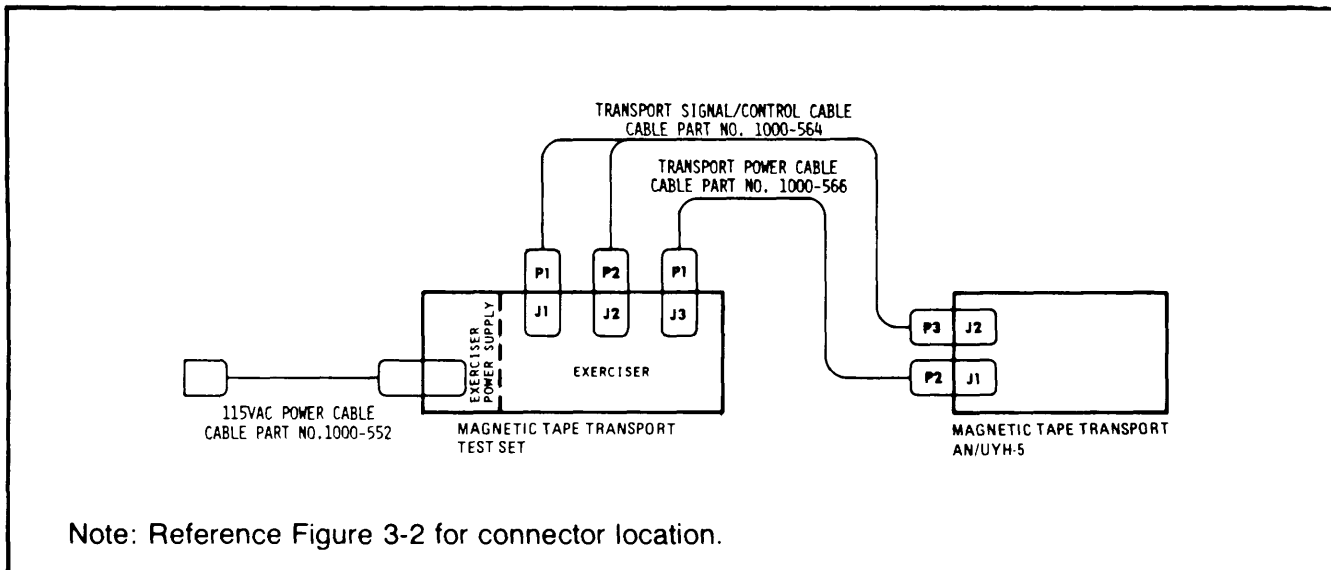
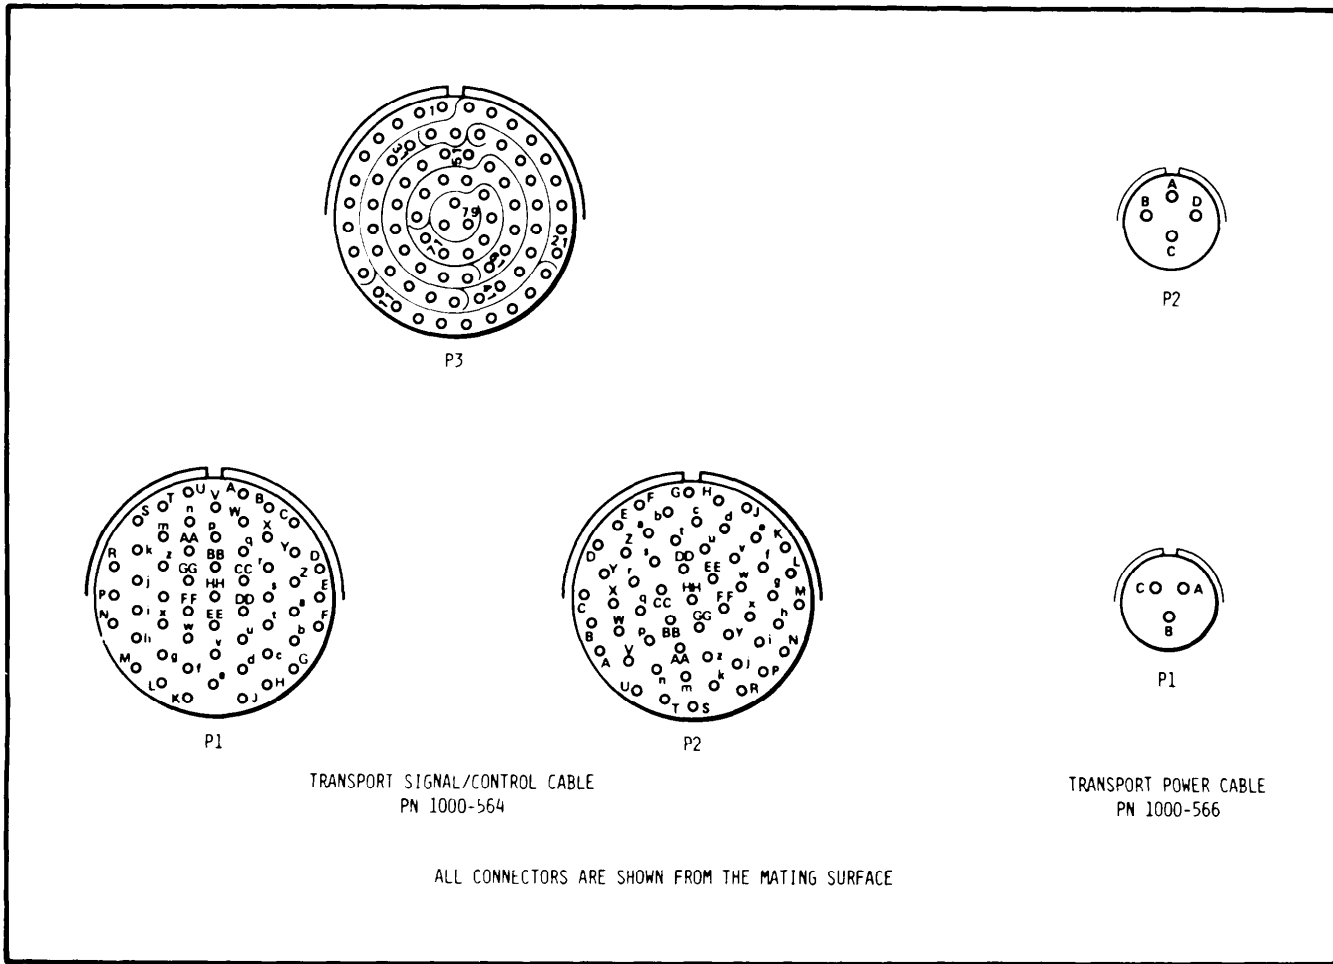

Figure 2-1. Cable Connections
Figure 2-2. Connector Pin Location.
6. Attach the transport signal/control cable P1 and P2 (P/N 1000-564) to connectors J1 and J2 of the Exerciser as shown in Figure 2-1. See Figure 3-2 for connector location.
7. Attach the transport power cable P1 (P/N 1000-566) to connector J3 of the Exerciser as shown in Figure 2-1.
8. Insert the Exerciser power cable into the power socket located at the rear of the Exerciser. Plug the power cable into 115 Vat, 60 Hz power source as shown in Figure 2-1.
13. Attach transport signal/control cable P3 to J2 (see Figure 2-1) and transport power cable P2 to J1 on the Magnetic Tape Transport AN/UYH-5.
All electrical connections from the Exerciser to the transport are made from the connector panel. Figure 2-1 is the cabling diagram, Table 2-1 is a wire list for transport control cable (P/N 1000-564) and Table 2-2 is a wire list for the transport power cable (P/N 1000-566). Figure 2-2 shows the connector pin location.